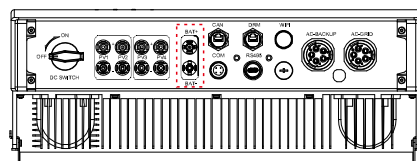

Figure 4.10
Step 5. Fit the connectors to the battery ports at the bottom of the inverter with correct polarity and a "click" sound. (see figure 4.10)